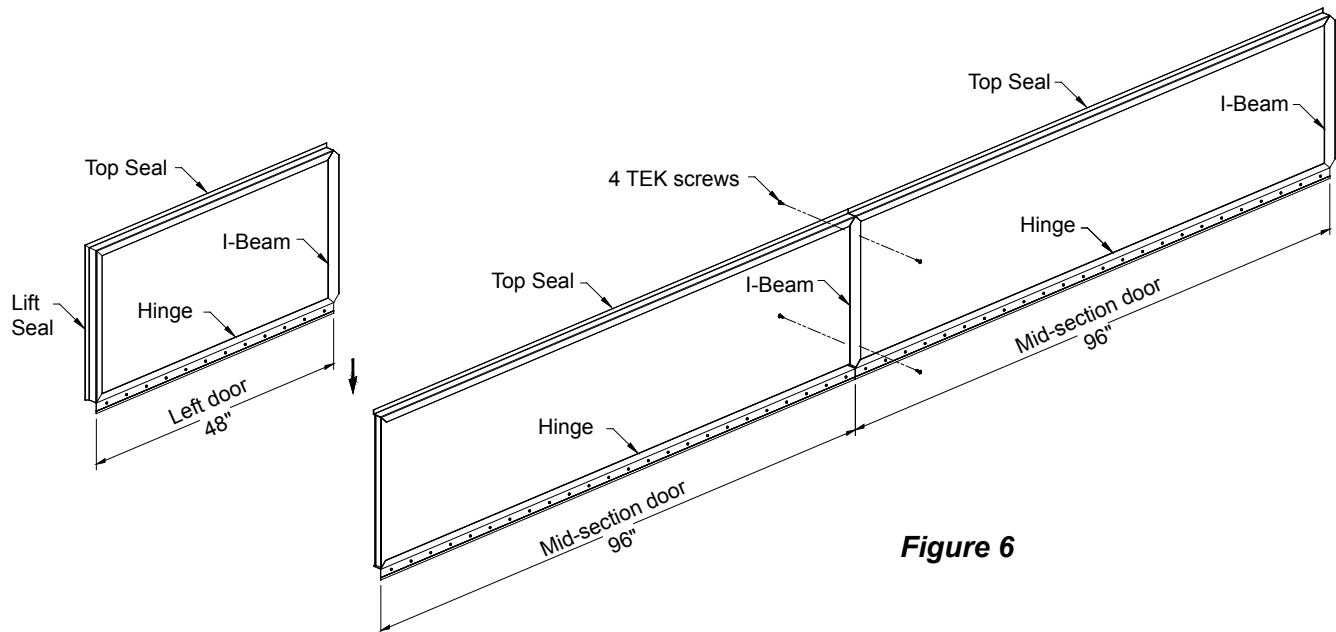

Figure 6
15) **IMPORTANT** – Reopen doors and install Tek (self tapping) screws, two on front and two on back, where the I-Beam overlaps the bare edge of the mating door. The Tek screw should go through the I-Beam and corrugated plastic cover sheet. The screws will mechanically fasten the two doors together. **See Figure 6**.